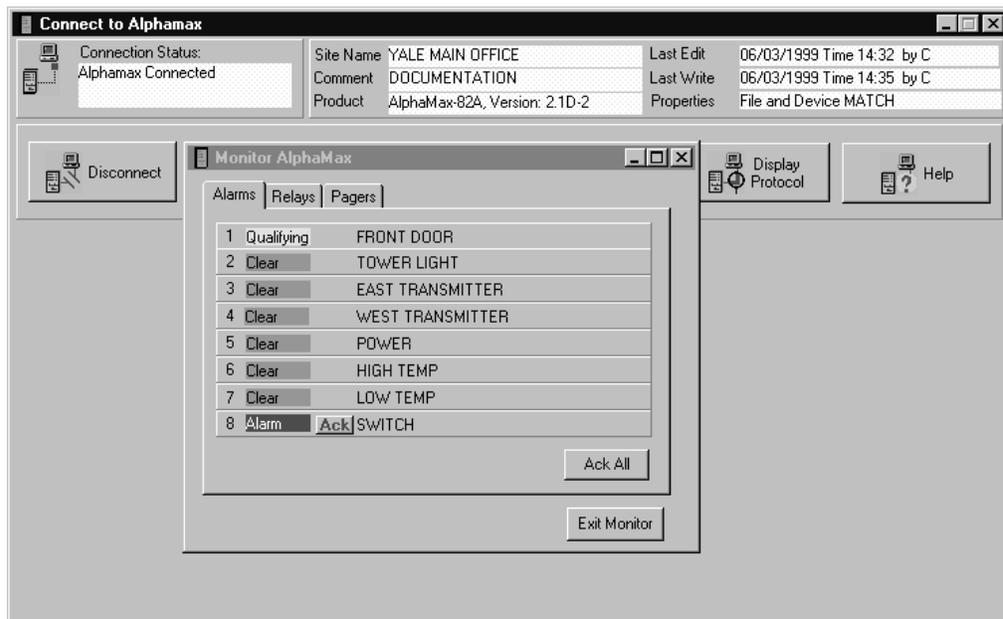

Fig. 26 - The Monitor AlphaMax Alarms window shows alarmed points in red and cleared points in green.
6. Click on the "Monitor" button. *The monitor screen shows the status of the 8 alarms. Points that are not alarmed will be listed as "Clear" on a green background. Points that are alarmed will be listed as "Alarm" on a red background. Points that are in alarm and waiting for a qualification time to pass will be listed as "Qualifying" on a yellow background. The point descriptions will also be listed. See Fig. 26.*